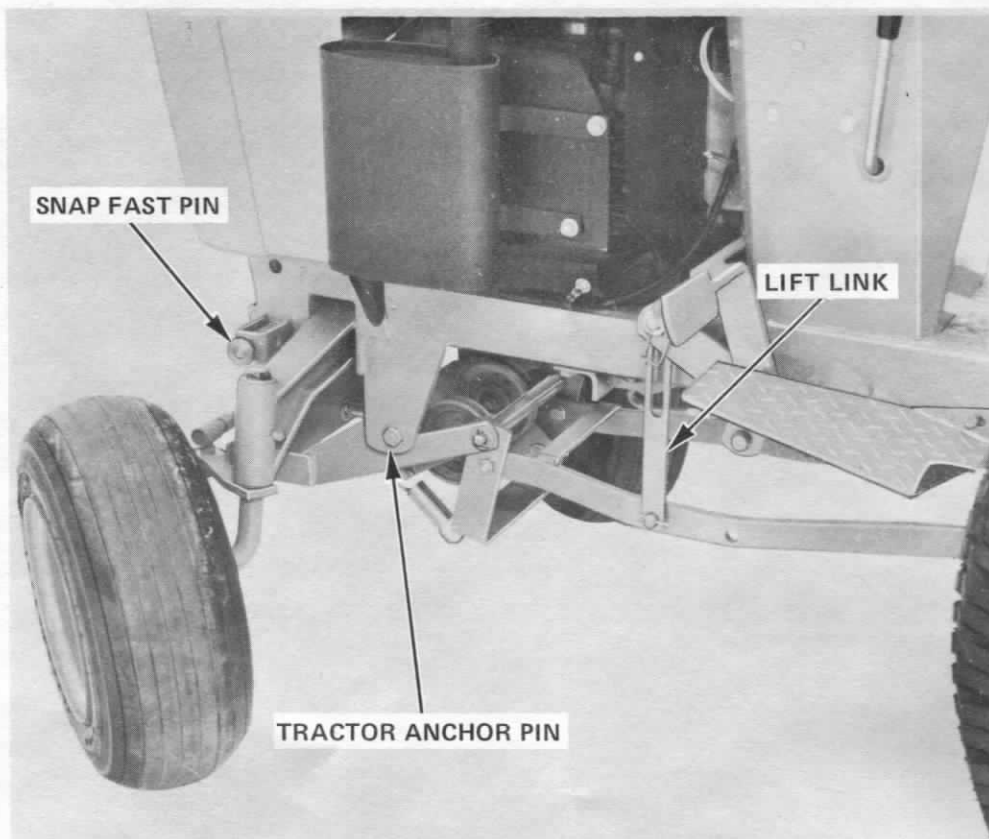

FIGURE 15 MOUNTING THE J-46 MOWER MOUNTING BRACKET
3. Position the mounting bracket under the front of the tractor and onto the anchor pins as shown in Figure 15. Raise the front of the bracket and release the snap fast pins to lock in place.
4. Lower the lift arms fully. Position the lift links on the inside of the lift arms. Put a plain washer on each clevis pin and install in the front hole of the lift arm from the inside. Secure the links with the safety pins at the outside. Refer to Figure 15.